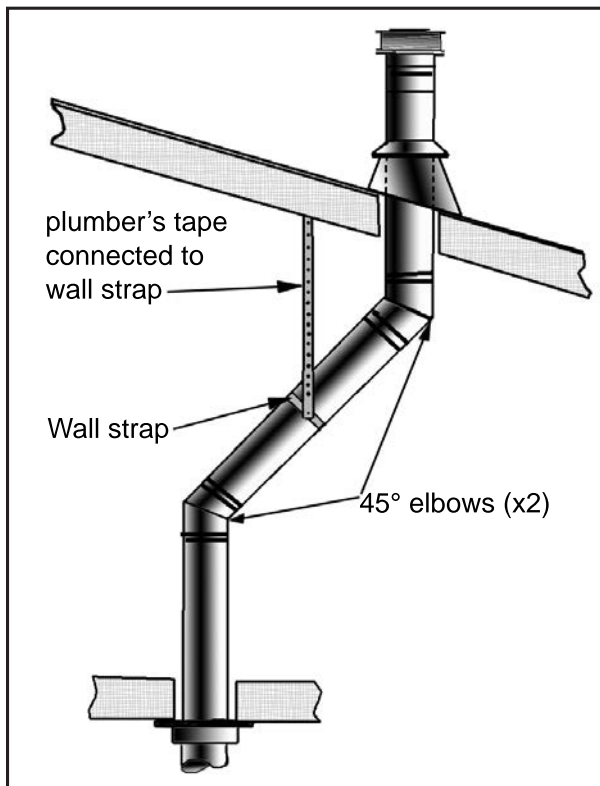

Figure 31: Use of Wall Straps.
8. Continue to add pipe sections until the height of the vent cap meets the minimum code requirements. Refer to Figure 31 and Table 5. Note that for steep roof pitches, the vent height must be increased. In high wind conditions, nearby trees, adjoining roof lines, steep pitched roofs, and other similar factors can result in poor draft, or down drafting. In these cases, increasing the vent height may solve the problem.
Table 5: Minimum 'H' for Figure 31.